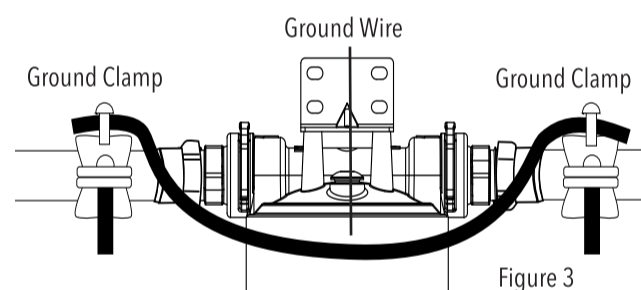

Figure 3
6. When installing on metallic plumbing: Securely install two grounding clamps and a #4 copper wire across the location where the system will be installed, tightly clamping it at both ends as shown in figure 3 (next page.)